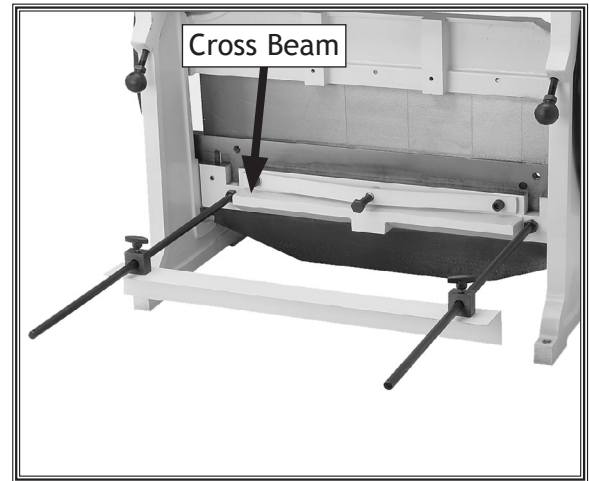

Figure 5. Rear stop assembly installed.
1. Install the rear stop assembly in the holes in the cross beam die, as shown in **Figure 5**. Adjust the stop to the required depth.